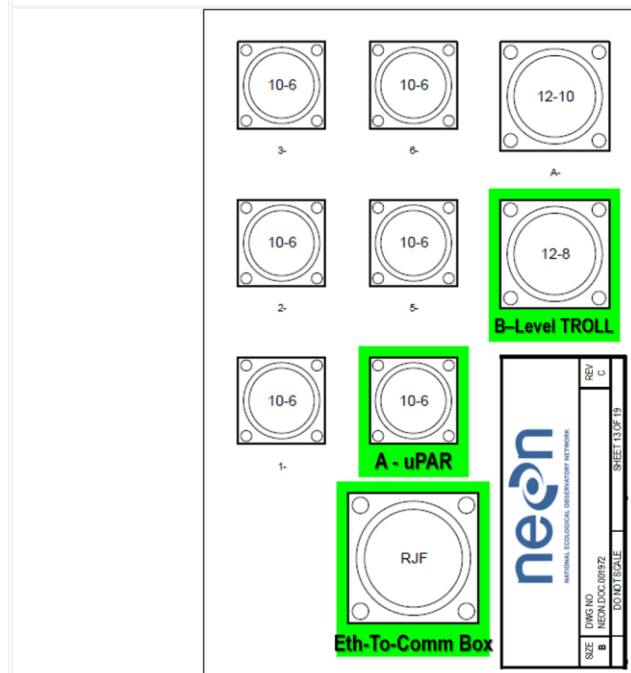

Figure 17. Uvifera (12V) Grape (AD [04])
STEP 7 | Connect sensor to Uvifera (12V) Grape per [AD \[04\]](#) in Figure 17.